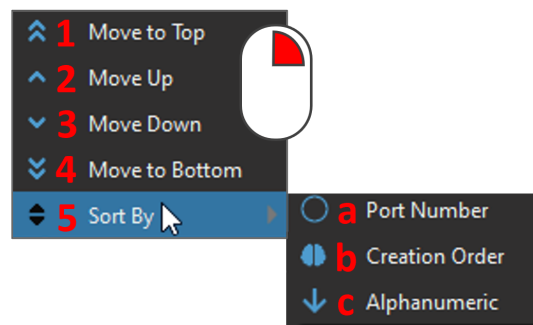

Figure 16.13: Graph View, Arrange graph order
The order of the individual graph can be modified (within the channel types) by *right clicking* one of the graphs in the **Graph View**. This opens a small pop-up menu (Fig. 16.13), that includes the following options:
1. The **Move to Top** option (Fig. 16.13, 1) sets the selected graph as the first one of its channel type within **Graph View**.
2. The **Move Up** option (Fig. 16.13, 2) shifts the selected graph towards the top by one graph, but only within its channel type.
3. The **Move Down** option (Fig. 16.13, 3) shifts the selected graph towards the bottom by one graph, but only within its channel type.
4. The **Move to Bottom** option (Fig. 16.13, 4) sets the selected graph as the last one of its channel type within **Graph View**.
5. The **Sort By** option (Fig. 16.13, 5) rearranges the graph order based on:
- a) The **Port Number** option (Fig. 16.13, a), set a chronological order within each channel type (e.g AIN01, AIN02, AIN03, etc.).
- b) The **Creation Order** option (Fig. 16.13, b), such that the first created channel will be on top and the last created channel will be on the bottom.
- c) The **Alphanumeric** option (Fig. 16.13, c), such that the **UserName** of each channel will be ordered alphanumerically.